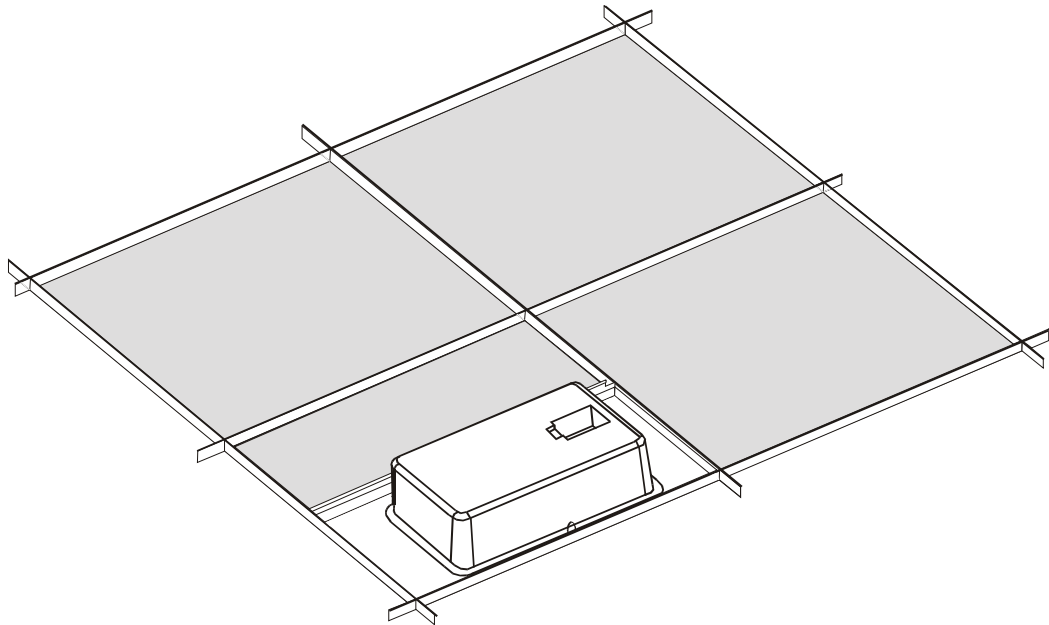

Figure 11: Replacing the Ceiling Tile
5. Replace half of the ceiling tile (see Figure 11).